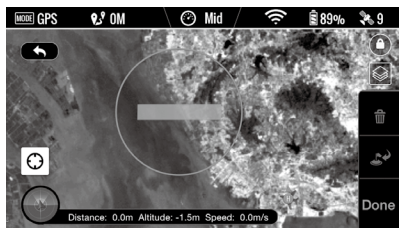

Figure 103
- ⚠️ A circle on the map, as shown in Figure 103, indicates a restricted, No Waypoint area. Waypoints cannot be placed in this area. For more information, refer to "6.2 Flight Restriction of Restricted Areas (P30)".